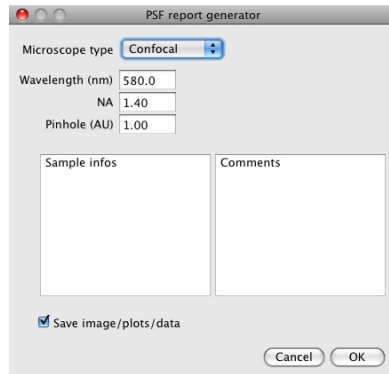

Figure 4.2: Generate PSF report: the interface.
5. The plugin's interface should appear (see fig. 4.2);